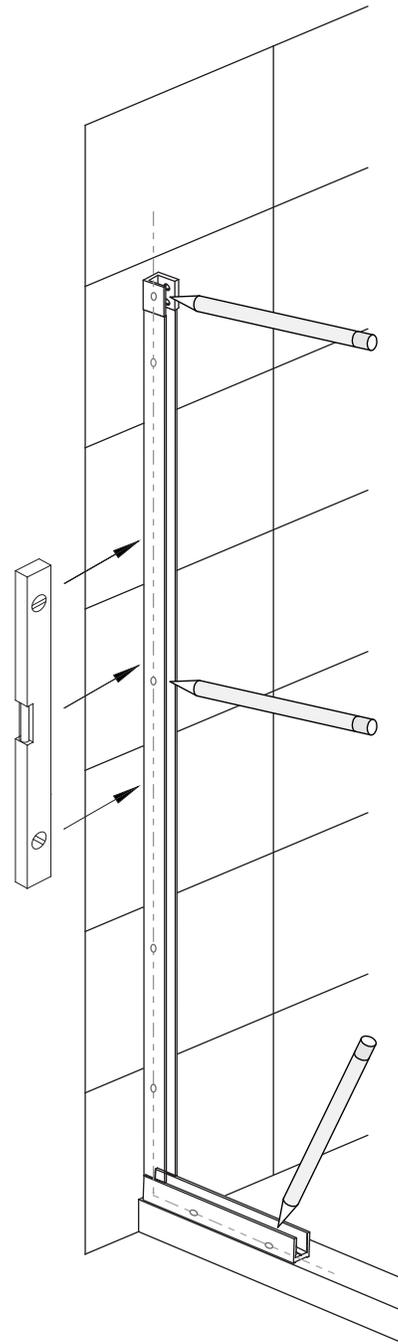

Fig 6
4. Mark the hole positions on the centerline on the wall and threshold through the holes in the U-channels and the **Hinge Panel Glass Bracket (#36)**. (Note that the **Hinge Panel Glass Bracket (#36)** is wider than the u-channel). **(Fig 6)**